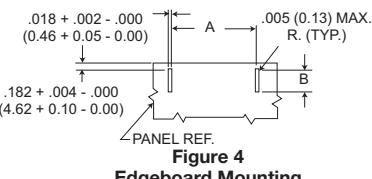

Figure 4
3. Figure 4 is for edge board mounting bracket or edgeboard clip assembly. The .184 + .002 (2.67 + 0.05) dimension locates the MD socket insulator flush with the end of the board.